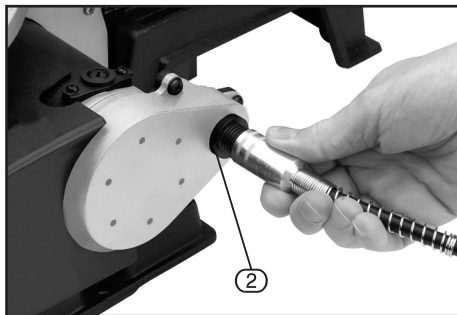

FIG. 9
- Screw the flexible drive shaft into the threaded connector (2) (Fig. 9).